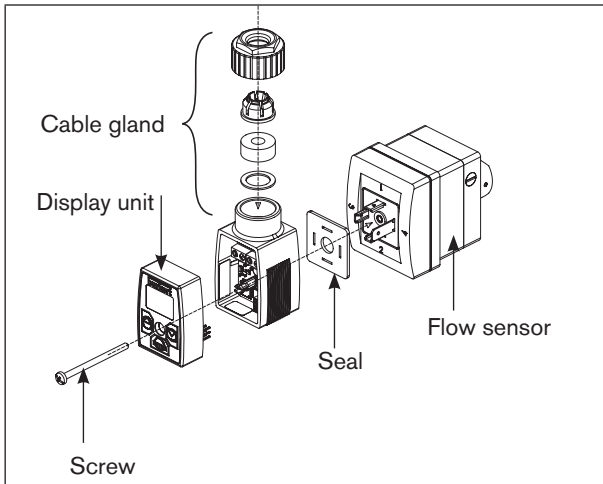

Fig. 9: Installing the device on the sensor (example of a device with cable gland and display unit, mounted on a Type SE30 sensor)
- Correctly position the device (see Fig. 9) and plug it on the 4-pin male connector of the flow sensor.